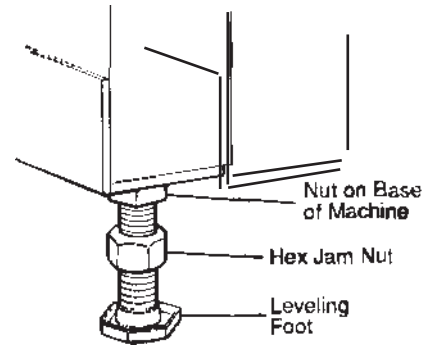

FIG. 2
2. The grinder's four leveling feet (FIG. 2) are seated in countersunk holes in the pallet. Lift one end of the machine until both feet are out of their holes.
Recheck the level in both directions. When satisfactory, tighten the hex jam nuts on the leveling feet securely against the nuts welded to the bottom of the base. See FIG. 2. Don't turn the leveling feet when tightening.